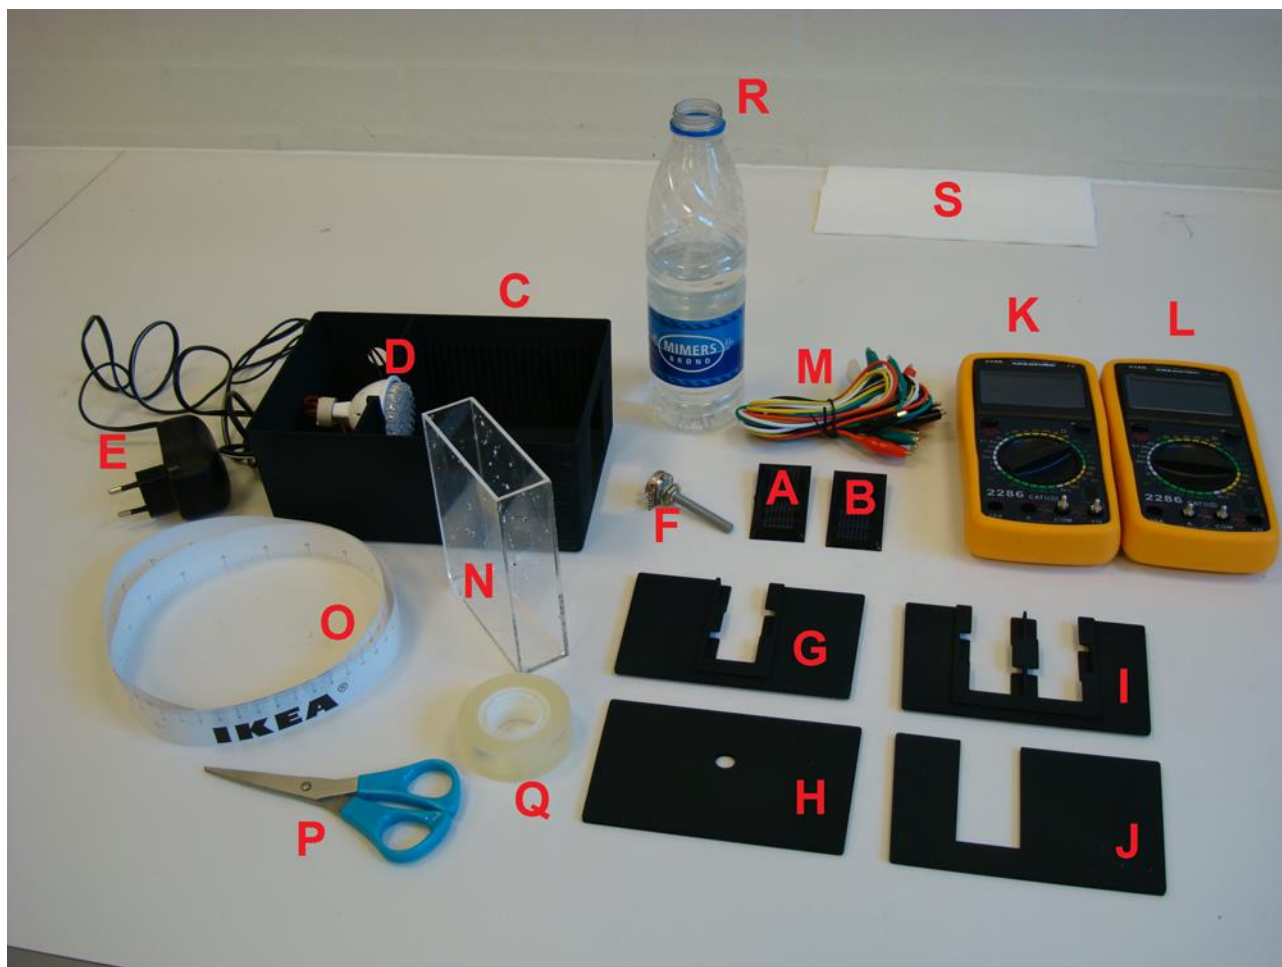

Figure 2.1 Equipment used for experiment E2.
Equipment used for this experiment is displayed in Fig. 2.1.
List of equipment (see Fig. 2.1):
- T:** Plastic cup for water from the optical vessel N (not shown in Fig. 2.1)
- U:** Plastic pipette (not shown in Fig. 2.1)
- V:** Lid for the box C (not shown in Fig. 2.1)